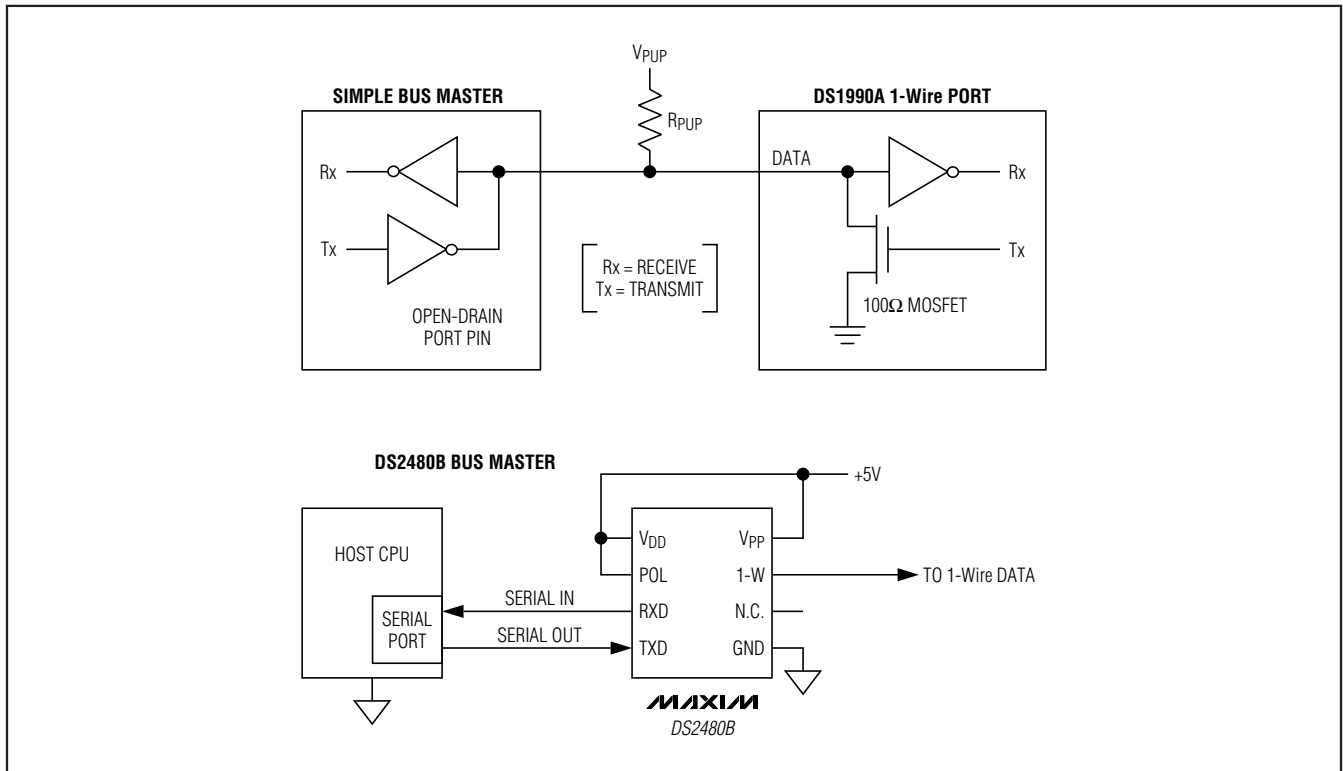

Figure 4. Hardware Configuration
**Note 2:** External pullup voltage. See Figure 4.
The 1-Wire bus has only a single line by definition; it is important that each device on the bus be able to drive it at the appropriate time. To facilitate this, each device attached to the 1-Wire bus must have open-drain or three-state outputs. The 1-Wire port of the DS1990A is open drain with an internal circuit equivalent to that shown in Figure 4. A multidrop bus consists of a 1-Wire bus with multiple slaves attached. At standard speed, the 1-Wire bus has a maximum data rate of 16.3kbps. The value of the pullup resistor primarily depends on the network size and load conditions. For most applications, the optimal value of the pullup resistor is approximately 2.2kΩ. The idle state for the 1-Wire bus is high. If for any reason a transaction needs to be suspended, the bus **must** be left in the idle state if the transaction is to resume. If this does not occur and the bus is left low